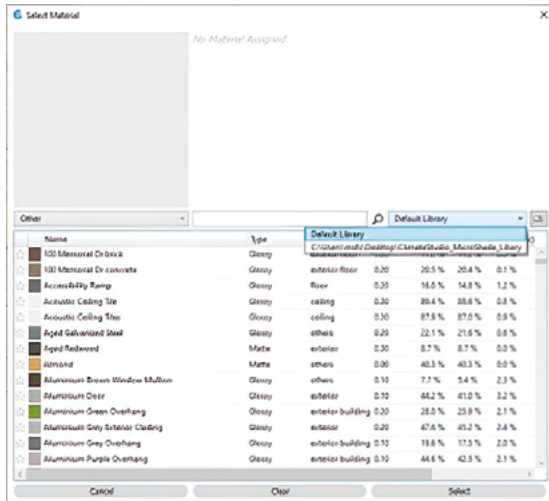
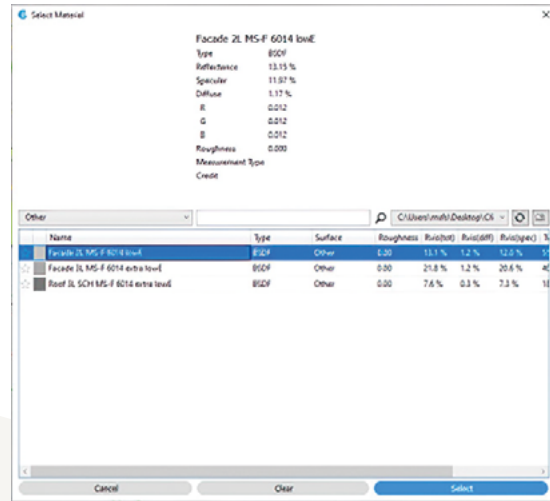

Figure 10 Select your newly added Custom Library.
Figure 11 Click on the BSDF you want to use, if multiple is added to your library, and click "Select".
Step 7: Click on the dropdown menu displaying **"Default Library"** and select the newly added custom library. See figure 10. If materials are added while working, click the refresh button  to be able to see the newly added materials. Click on the material you want to use, and click **"Select"**, see figure 11.